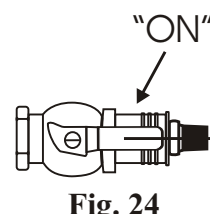

Fig. 24
3. Push the plug in until the sleeve snaps forward. This will lock the plug in the socket. Turn the handle to the “ON” position to turn propane on. (Fig. 24)